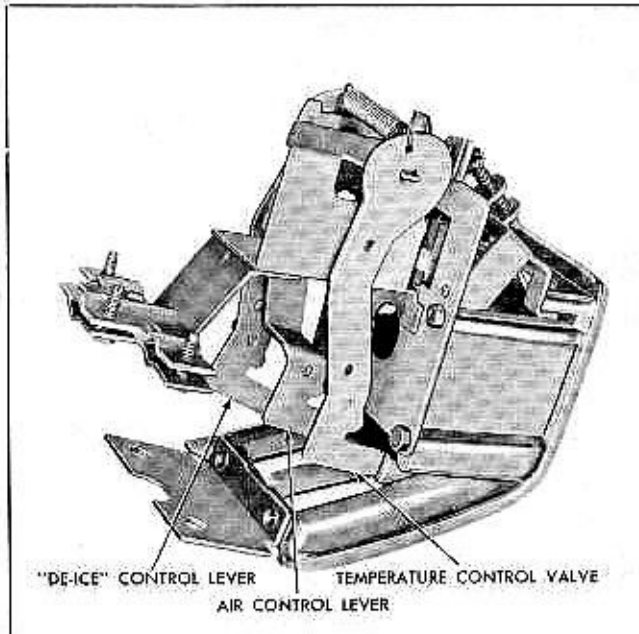

Fig. 2-20 Identification of Control Panel Levers
5. Disconnect instrument panel lamp, wire connectors from the control panel assembly and remove control panel assembly (Fig. 2-20).